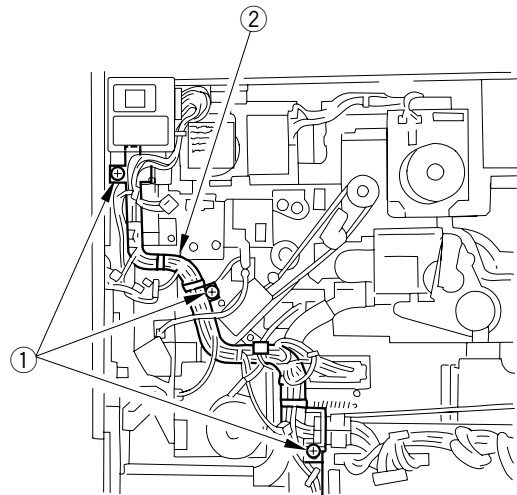

Figure 7-447
- 8) Free the harness guide 1. (See Figure 7-447.)
- 10) Remove the two mounting screws ①, and remove the deck relay drive assembly ②.
- 11) Remove the seven mounting screws ③, then, remove the pick-up drive assembly ④.